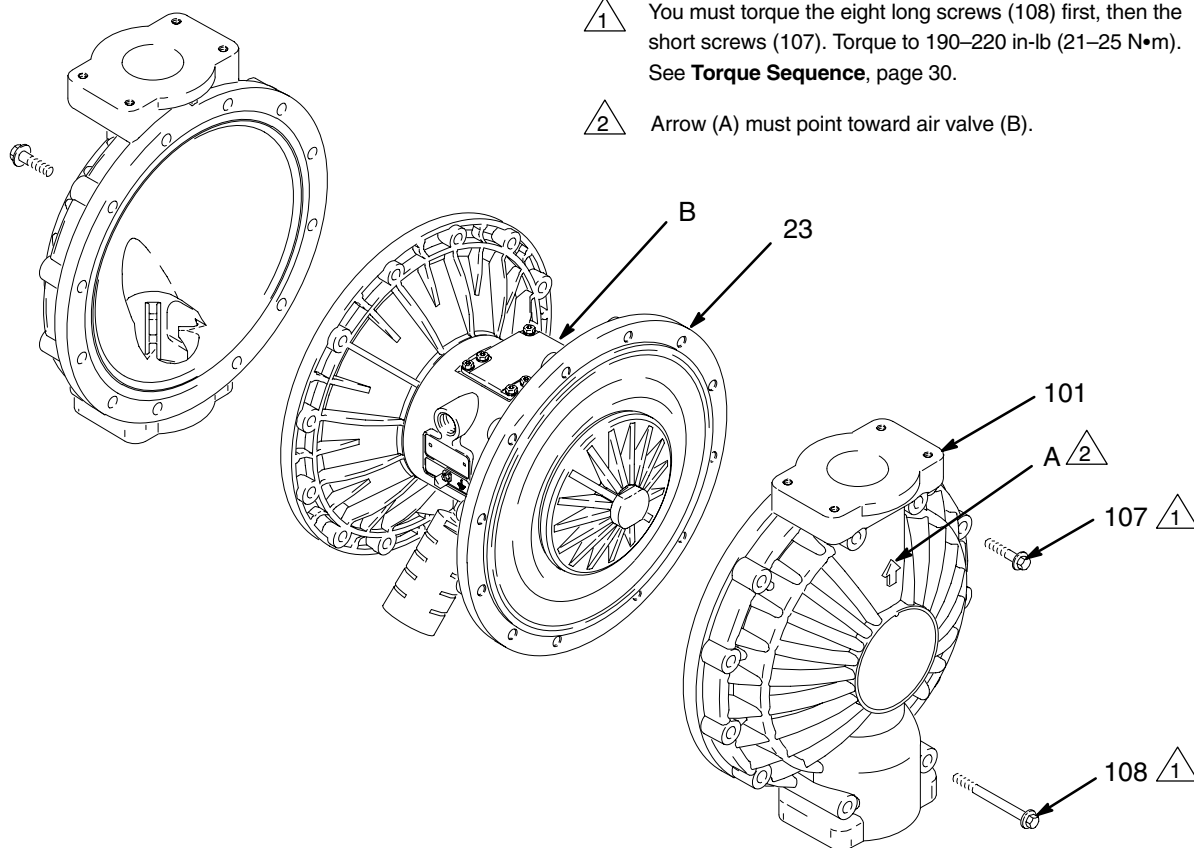
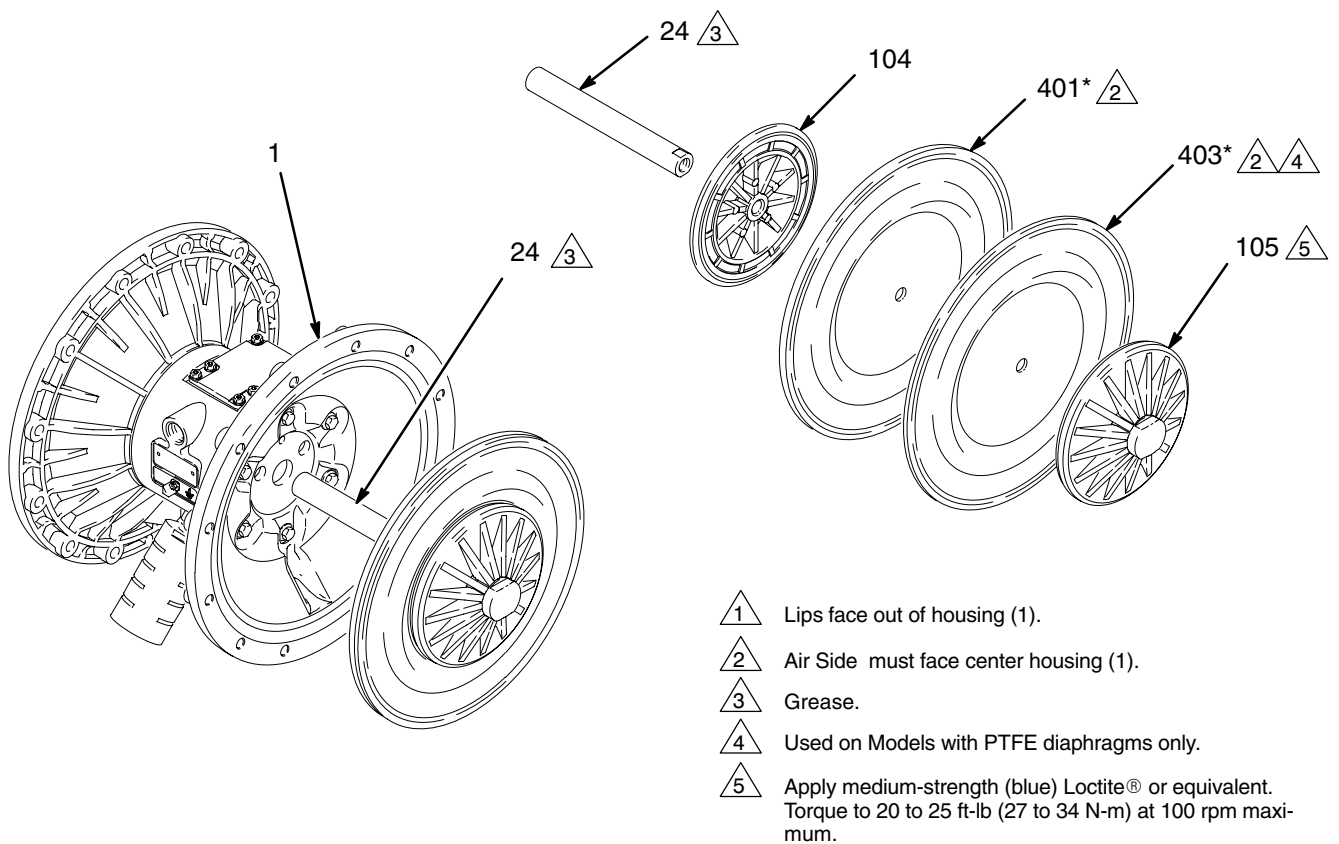
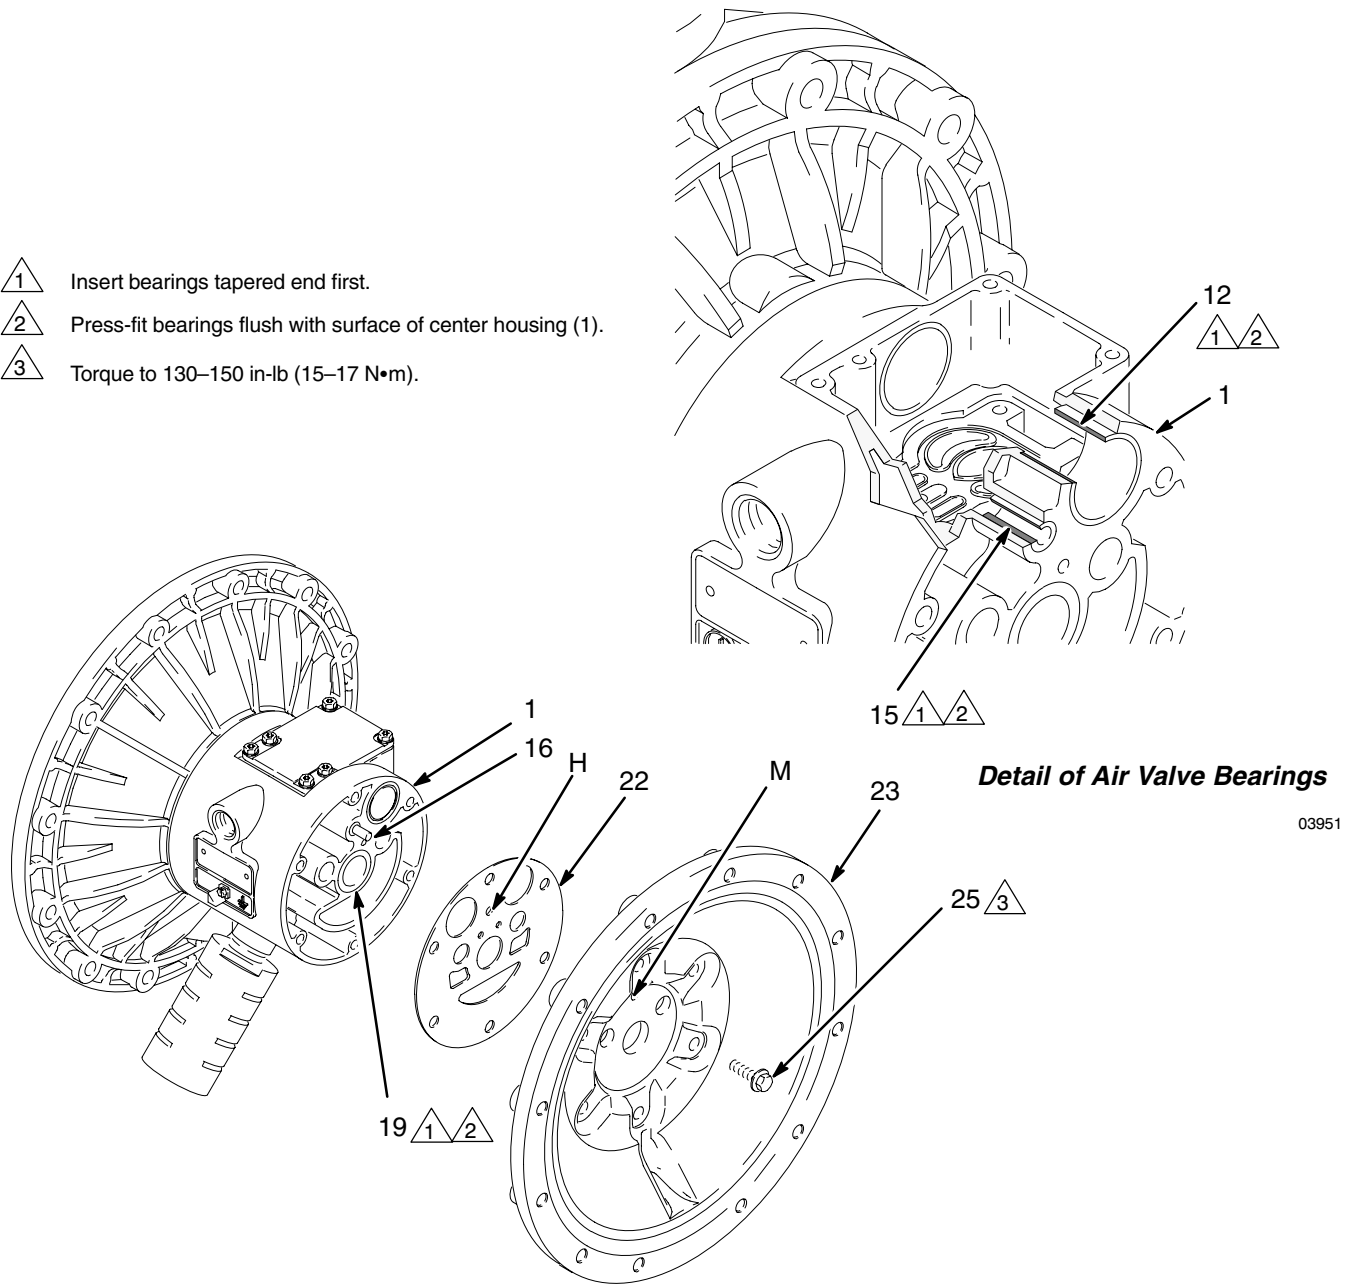

Fig. 12
Fig. 13
Fig. 14
3. Using 13 mm socket wrenches, remove the screws (107 and 108) holding the fluid covers (101) to the air covers (23). Pull the fluid covers (101) off the pump. See Fig. 12.
4. Unscrew one outer plate (105) from the diaphragm shaft (24). Remove one diaphragm (401), and the inner plate (104). See Fig. 13.
1. Grease the shaft u-cup packings (402*) and install them so the lips face **out** of the housing (1). See Fig. 13.
2. Grease the length and ends of the diaphragm shaft (24) and slide it through the housing (1).
3. Assemble the inner diaphragm plates (104), diaphragms (401*), PTFE diaphragms (403*, if present), and outer diaphragm plates (105) *exactly* as shown in Fig. 13. These parts **must** be assembled correctly.
4. Apply medium-strength (blue) Loctite® or equivalent to the threads of the fluid-side plates (105). Hold one of the outer plates (105) with a wrench, and torque the other outer plate to 20 to 25 ft-lb (27 to 34 N-m) at 100 rpm maximum. Do not over-torque.
5. Align the fluid covers (101) and the center housing (1) so the arrows (A) on the covers face the same direction as the air valve (B). Secure the covers with the screws (107 and 108), handtight. Install the longer screws (108) in the top and bottom holes of the covers. See Fig. 12.
6. First, torque the longer screws (108) oppositely and evenly to 190–220 in-lb (21–25 N•m), using a 13 mm socket wrench. Then torque the shorter screws (107). See **Torque Sequence**, page 30.
- NOTE:** If you are removing only the diaphragm shaft bearing (19), skip step 22.
5. Using a 10 mm socket wrench, remove the screws (25) holding the air covers (23) to the center housing (1). See Fig. 14.
6. Remove the air cover gaskets (22). Always replace the gaskets with new ones.
7. Use a bearing puller to remove the diaphragm shaft bearings (19), air valve bearings (12) or pilot pin bearings (15). Do not remove undamaged bearings.
8. If you removed the diaphragm shaft bearings (19), reach into the center housing (1) with an o-ring pick and hook the u-cup packings (402), then pull them out of the housing. Inspect the packings. See Fig. 13.
1. If removed, install the shaft u-cup packings (402*) so the lips face **out** of the housing (1).
2. The bearings (19, 12, and 15) are tapered and can only be installed one way. Insert the bearings into the center housing (1), **tapered end first**. Using a press or a block and rubber mallet, press-fit the bearing so it is flush with the surface of the center housing.
4. Align the new air cover gasket (22) so the pilot pin (16) protruding from the center housing (1) fits through the proper hole (H) in the gasket.
5. Align the air cover (23) so the pilot pin (16) fits in the middle hole (M) of the three small holes near the center of the cover. Install the screws (25), handtight. See Fig. 14. Using a 10 mm socket wrench, torque the screws oppositely and evenly to 130–150 in-lb (15–17 N•m).